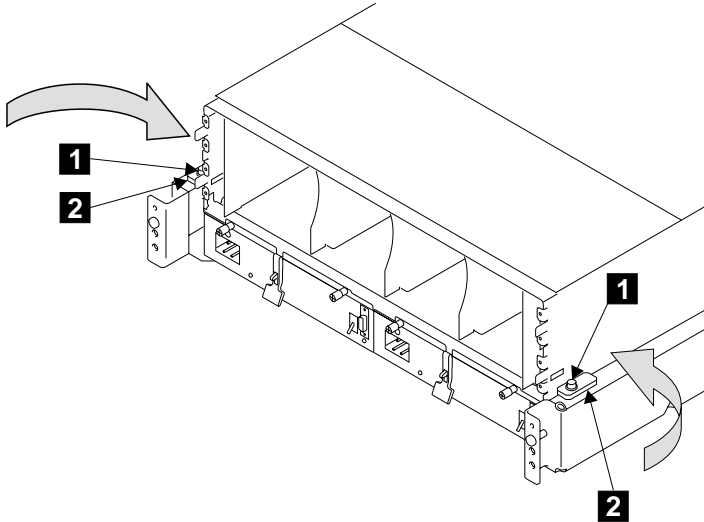

Figure 19. Engaging the Clamp Plates
- Step 13. Refer to Figure 19.